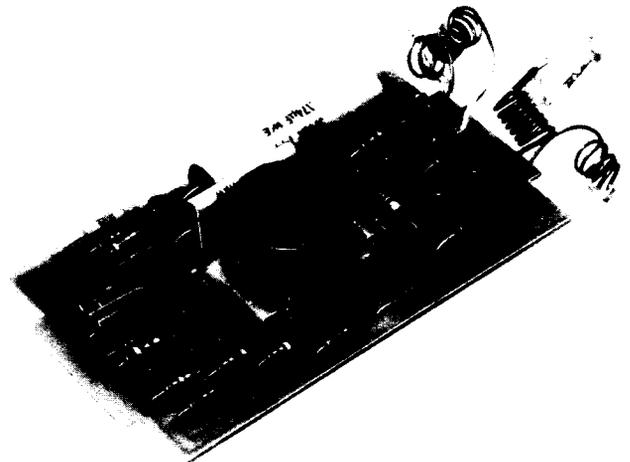

Fig. 1—1A350 Tone Detector
- 1.01 This section contains identification information on the 1A350 tone detector (Fig. 1).